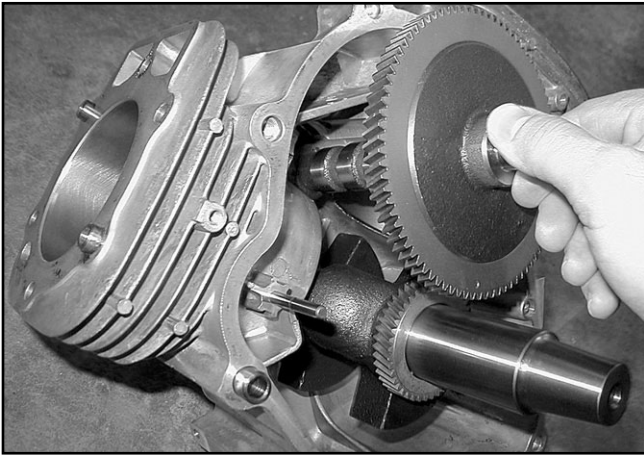

Figure 9-3. Remove Camshaft
3. Rotate crankshaft and camshaft until timing marks align and remove camshaft (Figure 9-3).